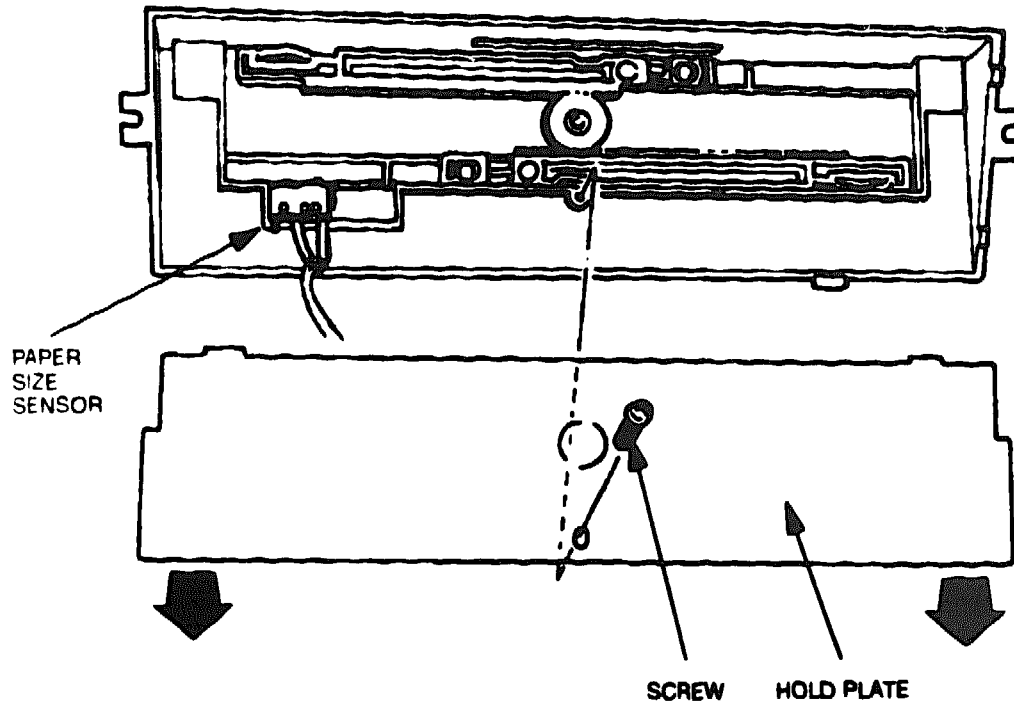

Figure 6-64 Hold Plate
2. Unscrew the hold plate shown in Figure 6-64 and remove it from the cut sheet guide assembly.